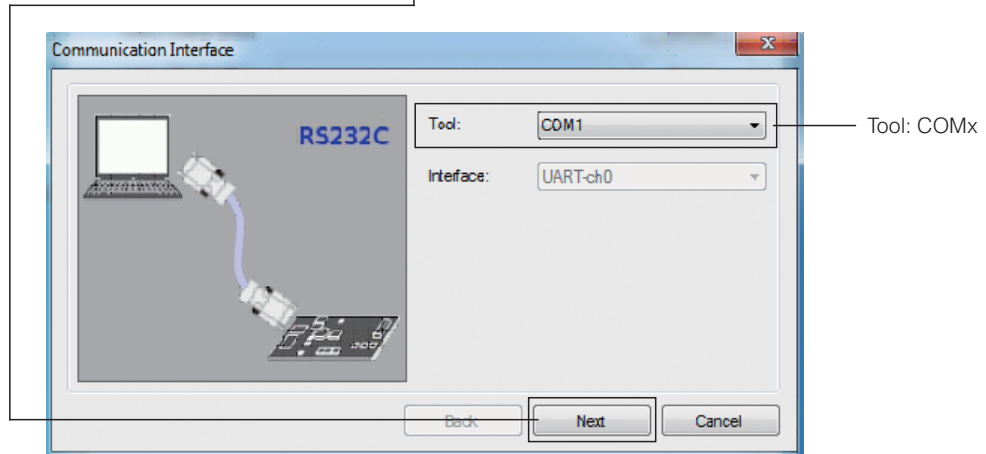

Fig. 4
6. Select COMx with the Tool and click [Next]. (Fig. 4)
- * Do not proceed to other settings until clicking [Next] is completed. (Fig. 4)